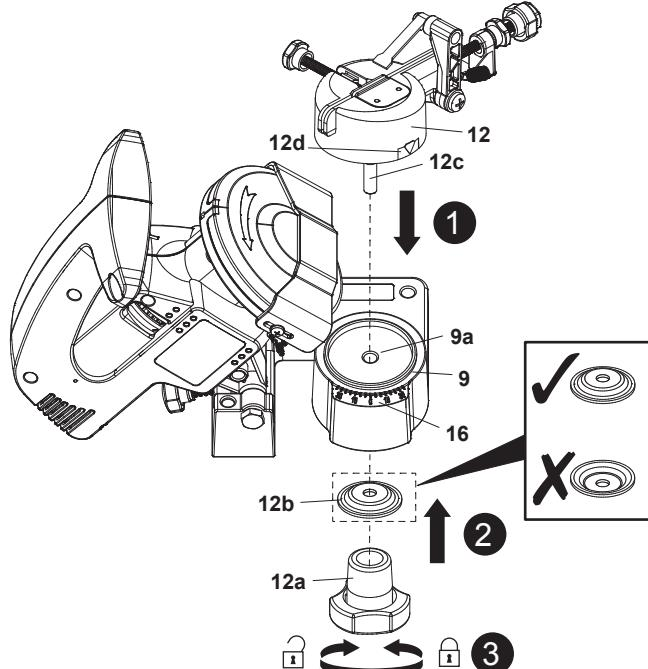

Fig. 2
- Align and pass the bolt (12c) through the location hole (9a) (Fig. 2, step 1). Ensure that the indication triangle (12d) aligns with the angle scale (16).
- Attach the cup washer (12b) onto the bolt (12c) (Fig. 2, step 2) and secure the saw chain vice (12) by turning the vice retainer (12a) clockwise. Ensure that the saw chain vice (12) sits properly (Fig. 2, step 3).